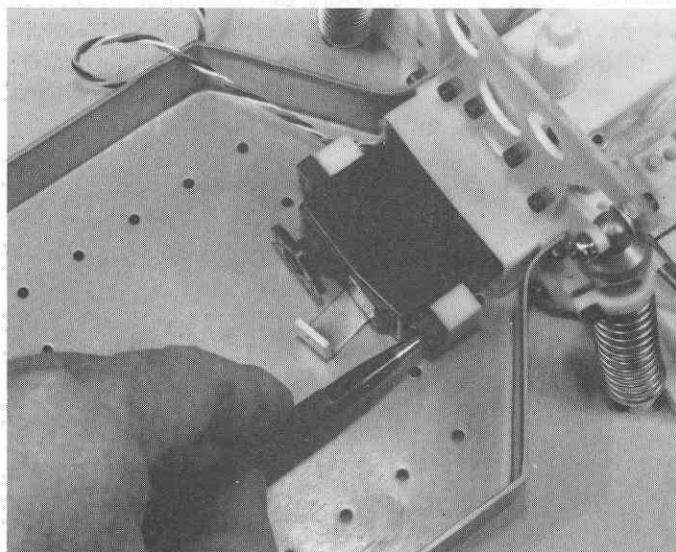

Fig. 158
□ **Fig. 158** Drop in the servo and space it off the chassis with a resistor bracket as shown. Mark the servo mounts with a pencil. Remove the mounts from the chassis and drill the mounts as in step 141. Install the mounts to the servo. Make sure the servo is turned so that the output shaft is on the correct side.